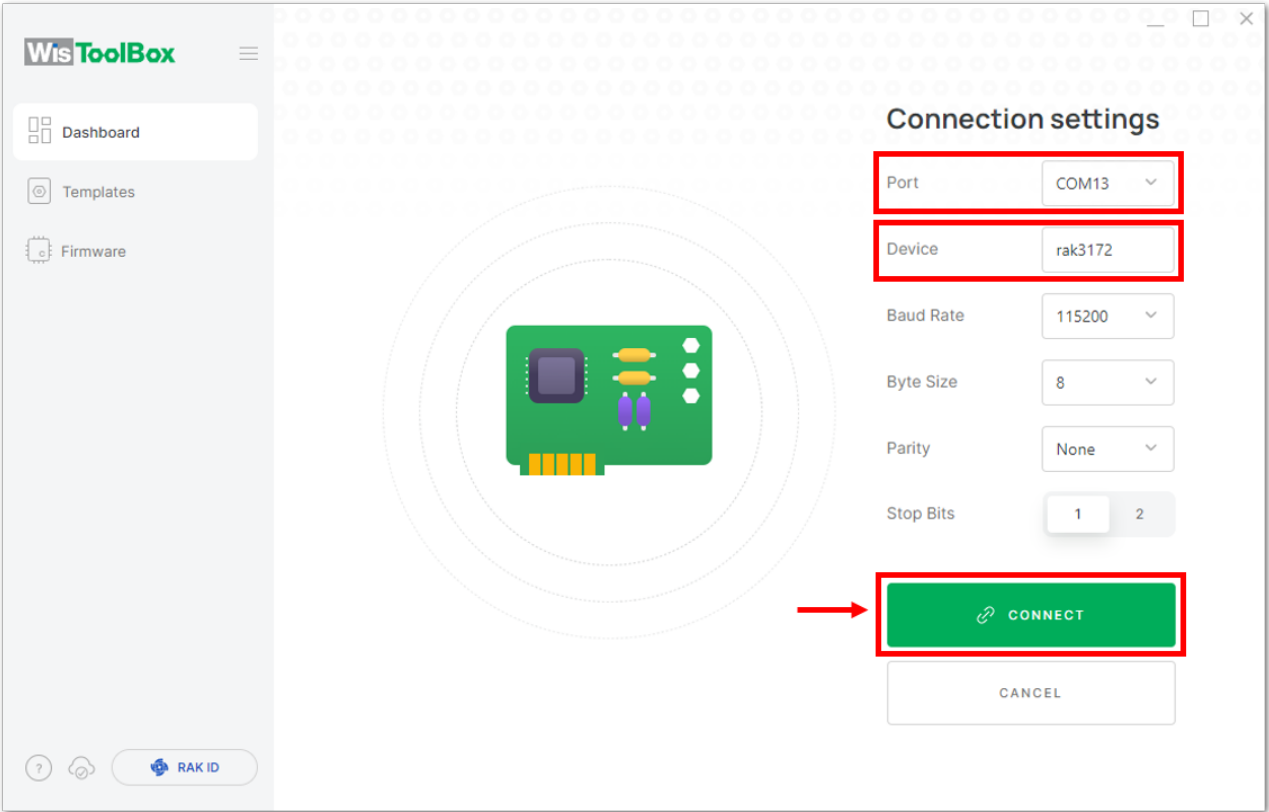

Figure 52: Setting up your device
3. Then select your target port where your **RAK3172** is connected. Once recognized, click **CONNECT** as shown in **Figure 52**.